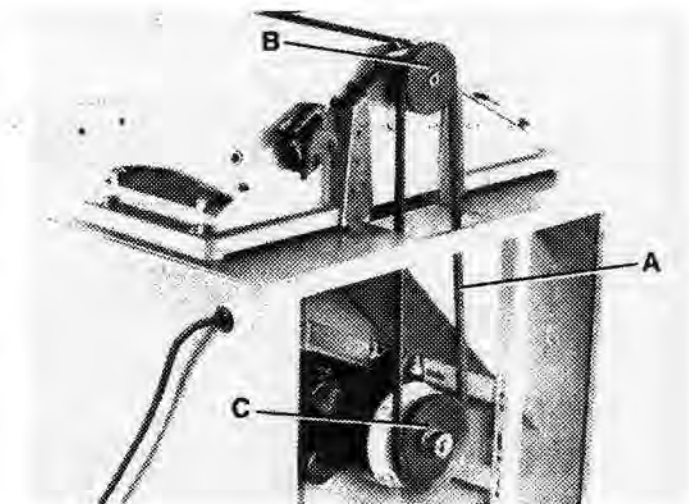

FIGURE 5
1. Place belt (A) Fig. 5, inside the grooves of cutterhead pulley (B) and motor pulley (C). Repeat for the second belt (not illustrated).